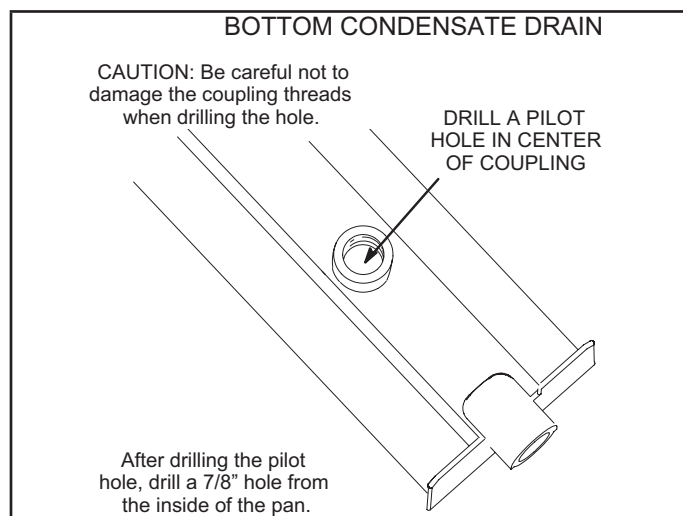

FIGURE 11
- 3 - Turn the drain pan upside down and drill a pilot hole through the bottom of the drain pan in the center of the coupling. See FIGURE 11.